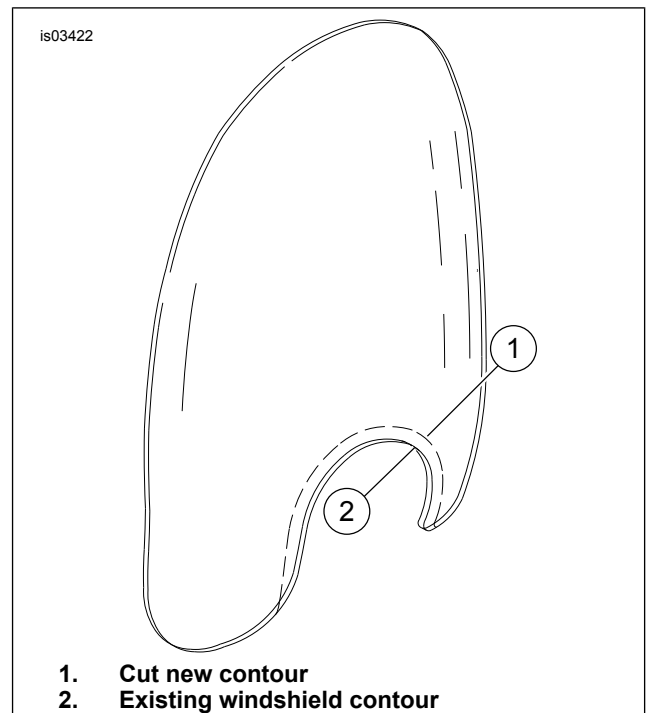

Figure 9. Trimming Detachable Windshield
1. See Figure 9. Cover the bottom 50 mm (2 in) of windshield closest to the headlamp contour, on both sides of the windshield, with two layers of masking tape. This tape provides a surface on which to mark the new cut, as well as keep the cut edge neat.
2. Mark the new cut location alongside, and approximately 31.8 mm (1¼ in) from the existing headlamp contour as shown in Figure 9 as a dashed line (1).